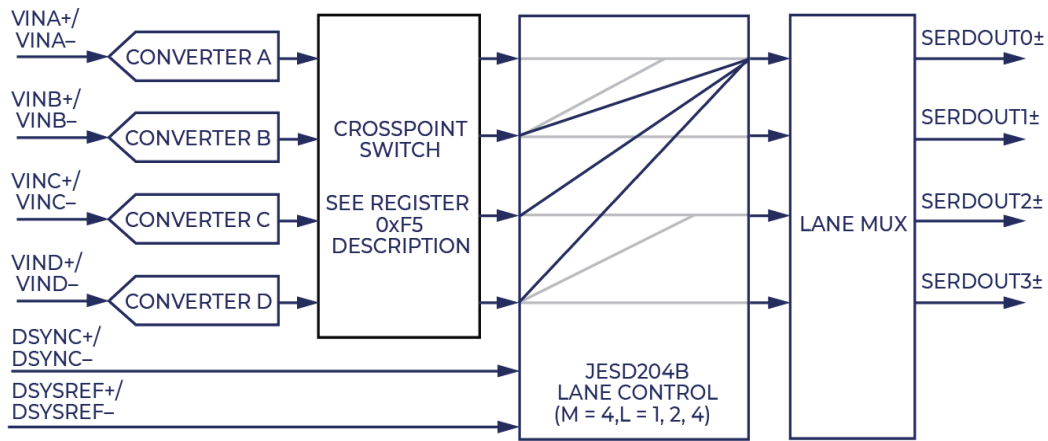

Figure 57. Simplified Functional Block Diagram of the Product's Transmission Link
- Options for remapping converter (logical lane) and SERDOUT_{x±} (physical lane) assignments: Register 0x82 and Register 0x83. Figure 57 shows a simplified functional block diagram.